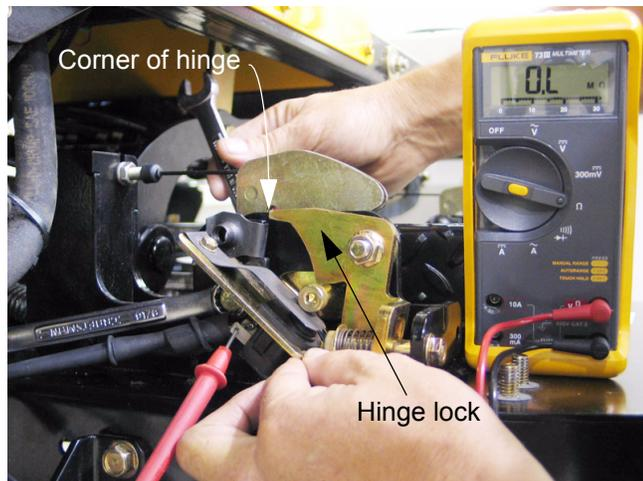

Figure 11.18
- 11.18. The switches are correctly adjusted when the contacts break just as the corner of the hinge lock clears the corner of the hinge. See Figure 11.18.